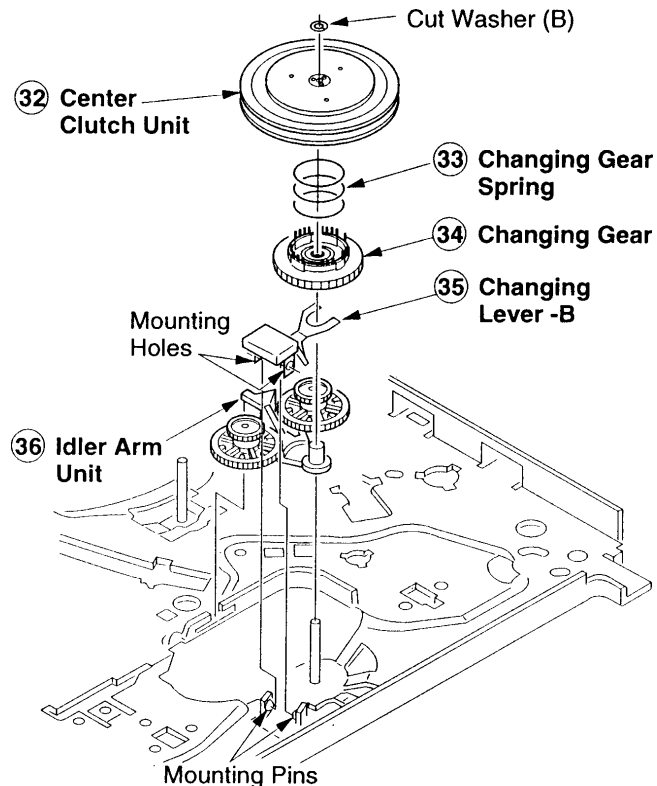
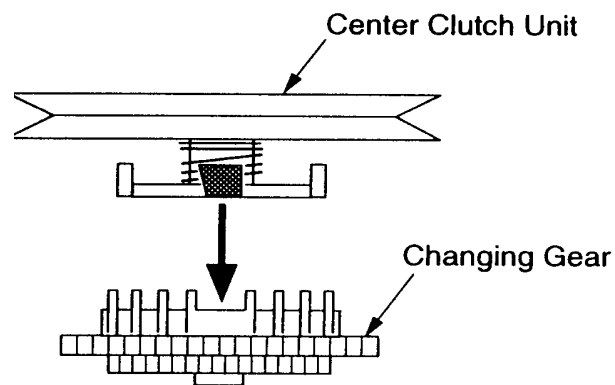

Fig. 23 - Center Clutch Unit/Changing Gear Spring/Changing Gear/Changing Lever-B/Idler Arm Unit Removal
Fig. 24 - Center Clutch Unit/Changing Gear Spring/Changing Gear/Changing Lever-B/Idler Arm Unit Removal
(Figs. 23, 24)
1. Remove one (1) cut washer (B) and then remove the center clutch unit, changing gear spring and the changing gear (Fig. 23).
2. Lift the changing lever-B from the two (2) pins.
**Note:** When reinstalling, fit the center clutch unit into the changing gear as shown in Fig. 24.